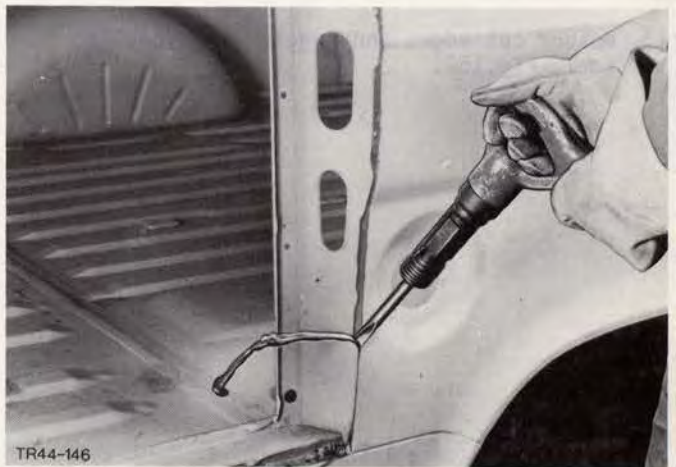

Fig.149. Remove metal remnants.
10. Remove metal remnants from spot weld flanges, Fig.149.